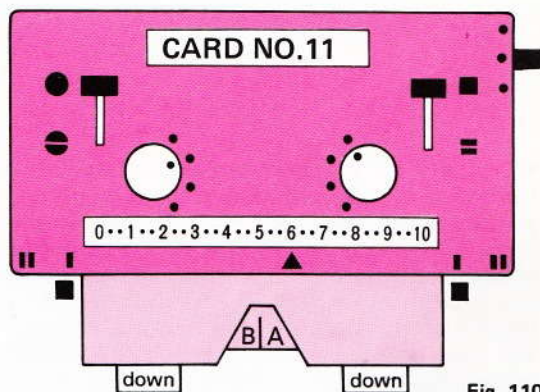

Fig. 110
- Set the carriage as in fig. 110. Thread yarns A and B in thread mouths I and II of yarn-guide,